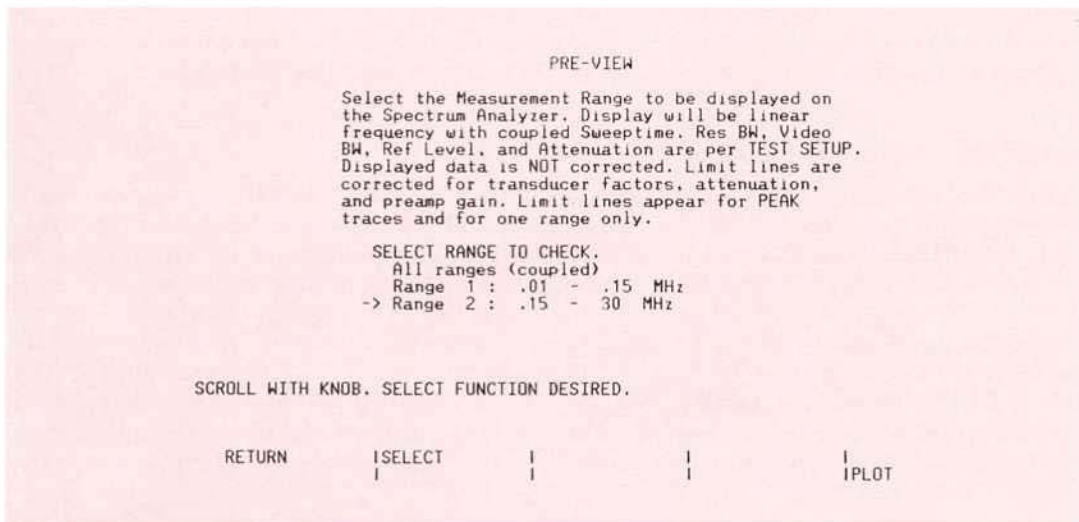
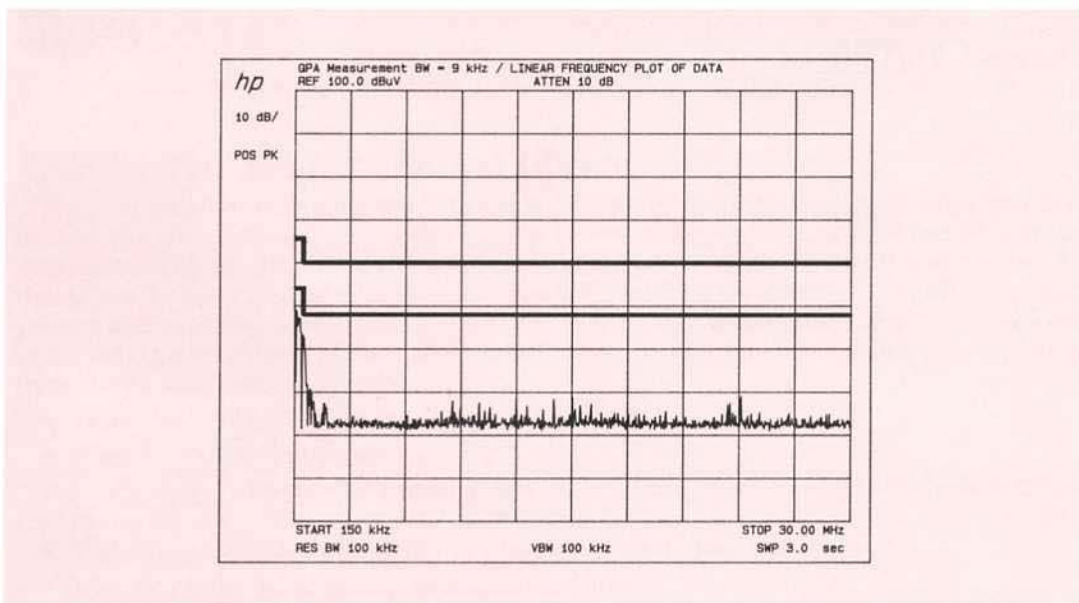

Figure 16. PRE-VIEW Selection Screen for VDE Conducted Test
Figure 17. Spectrum Analyzer Display for Preview Mode Showing Limit Lines
Figure 16 shows the preview selection screen. With the computer data knob, position the arrow adjacent to the transducer range to be previewed. Figure 17 shows the spectrum analyzer preview display with limit lines and emissions present.
- Select transducer range of interest (see Figure 16)